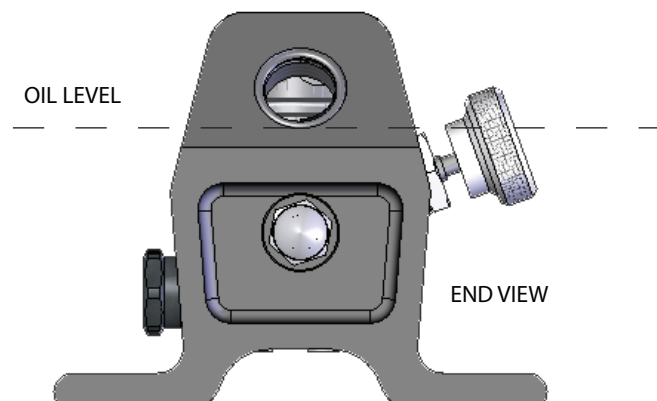

Figure 1
- Remove the filler cap. The fluid level should come to the bottom edge of the filler hole when the pump is level and resting horizontally on its base and the cylinders are retracted (see Figure 1).